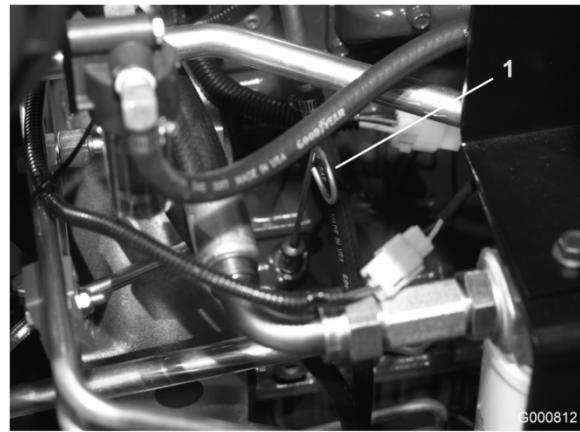

Figure 17
2. Remove dipstick (Figure 17), wipe clean and reinstall dipstick. Pull it out again and check oil level on dipstick: Oil level should be up to FULL mark on dipstick.